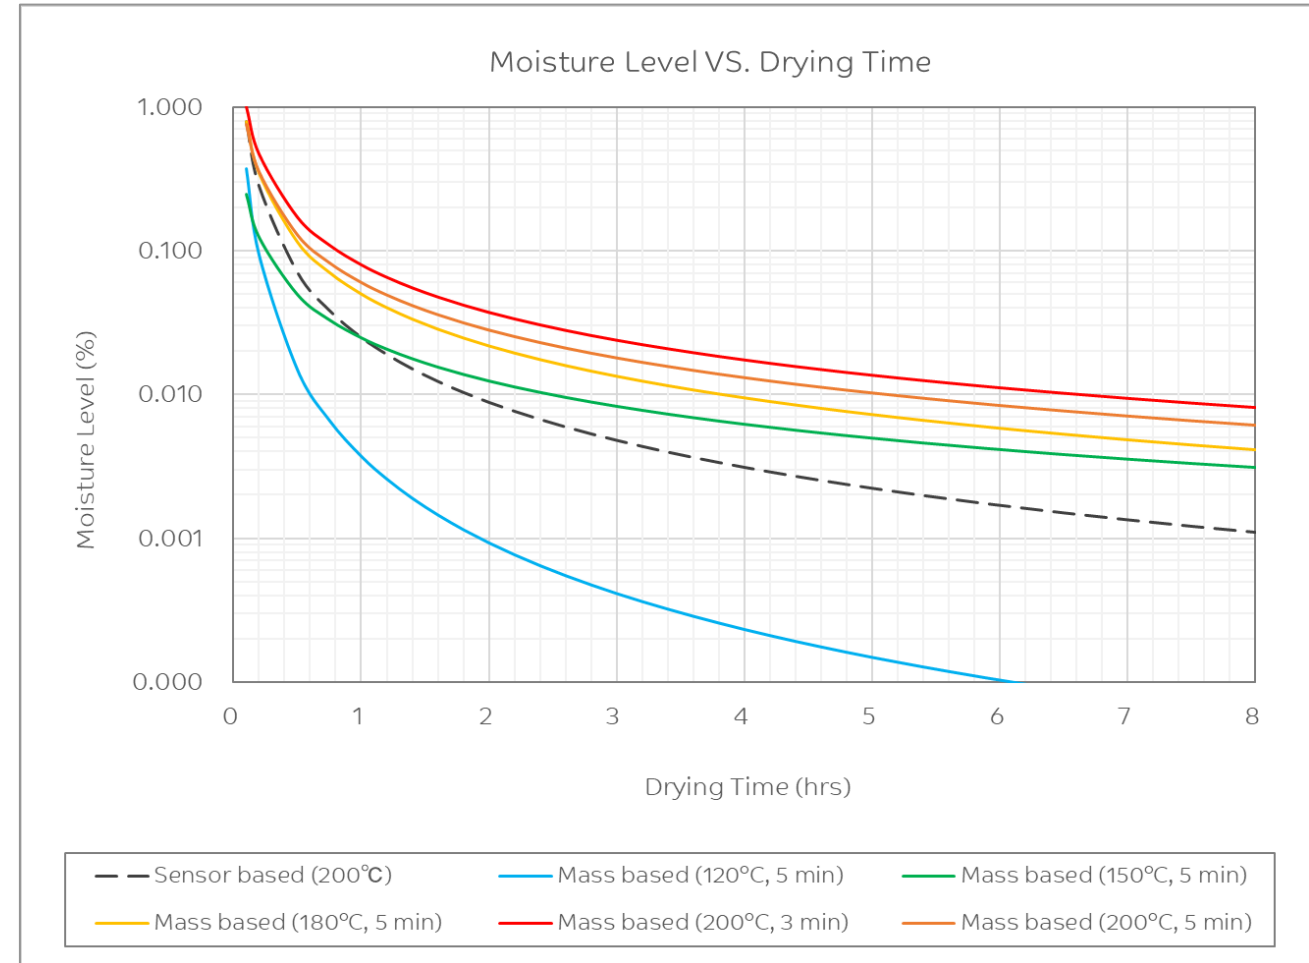

Fig. 4-6: Detected moisture content as function of heating [temperature and time from mass-base analyzer]
- Fig. 4-6 shows the detected moisture contents comparison of sensor based and mass-based method.